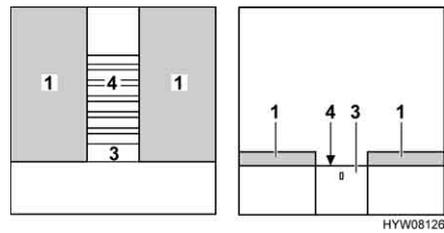

Fig. 82 During conversion
- Pull out slatted frame (Fig. 82,4) completely. To do this, pull on the extension (Fig. 82,3).